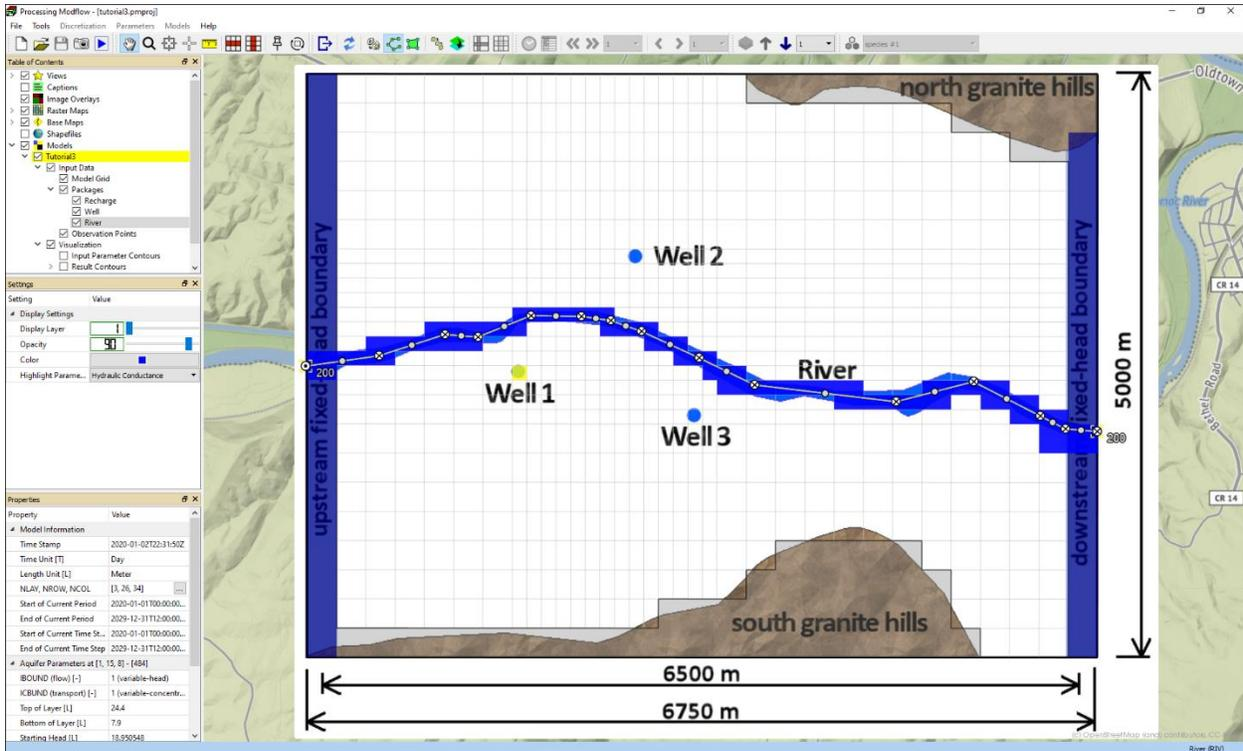

Figure 10. Define river using a polyline
5. Drag the vertices of the newly added polyline to follow the trace of the river until the polyline looks like Figure 10.